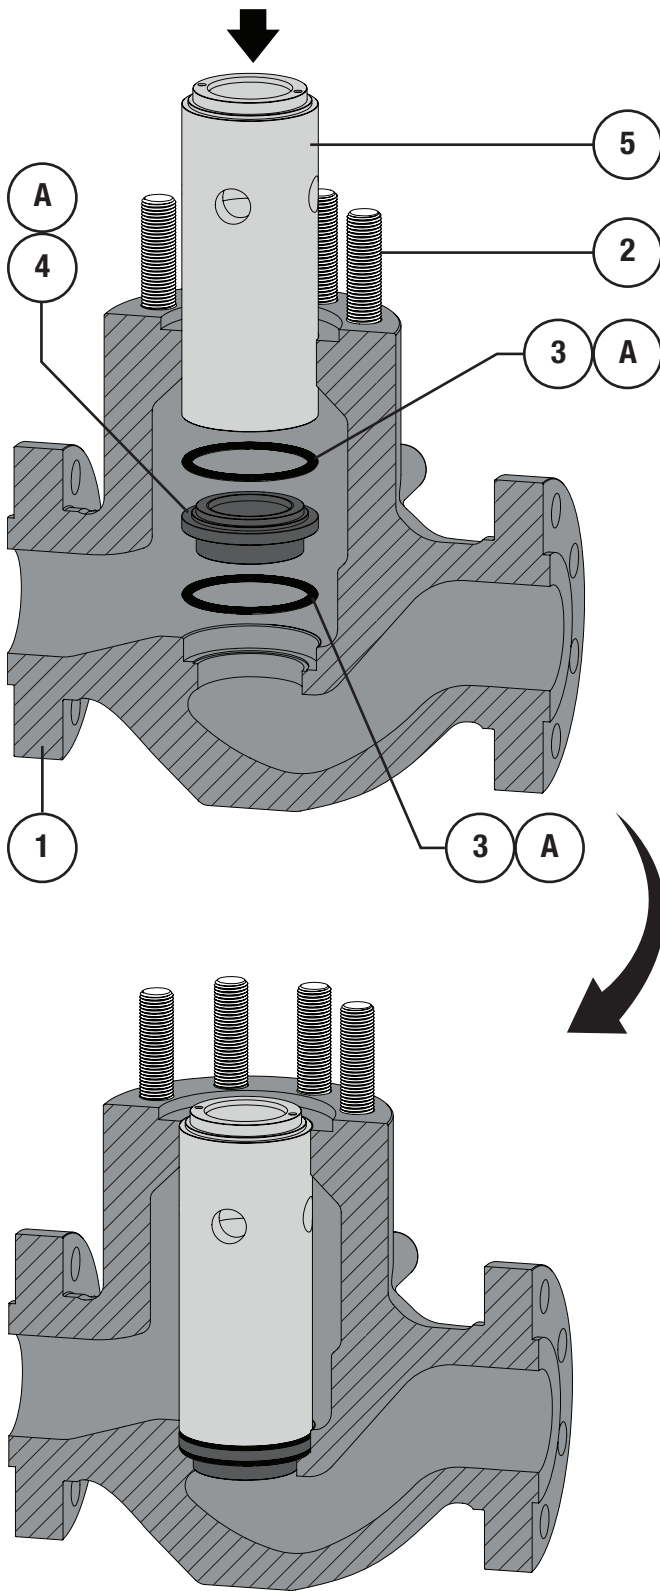

Figure 19 Trim Parts Installation (Steps 1 - 4)
- 1 Apply Permatex® Nickel Anti-Seize (Key A) to the seat ring pocket of the valve body (Key 1) and top surface of the first spiral wound gasket (Key 3). Install the spiral wound gasket into the valve body (Key 1). Refer to Figure 19.
- 3 Apply Permatex® Nickel Anti-Seize (Key A) to the top and bottom surface of the second spiral wound gasket (Key 3). Install the spiral wound gasket. Refer to Figure 19.
- 4 Install the cage (Key 5). Refer to Figure 19.